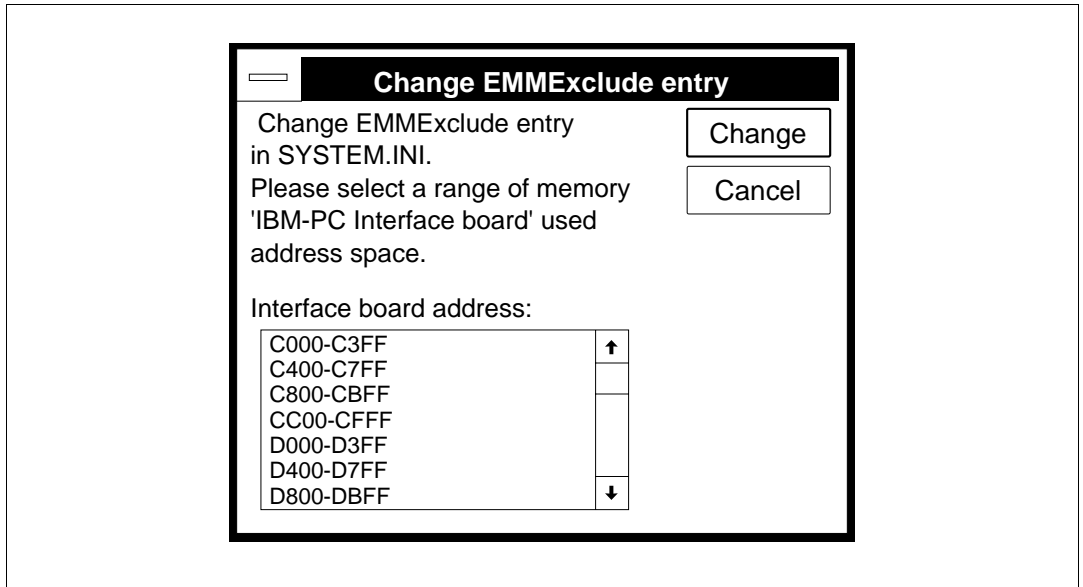

Figure 2-8 Specification of Memory Address Range for IBM PC Interface Board (INSTALL)
- (12) A dialog box is displayed to select the memory address range for the IBM PC interface board, as shown in figure 2-8. Specify the memory address range. For example, select "D000-D3FF" to specify the range from D000:0000 - D3FF:000F.